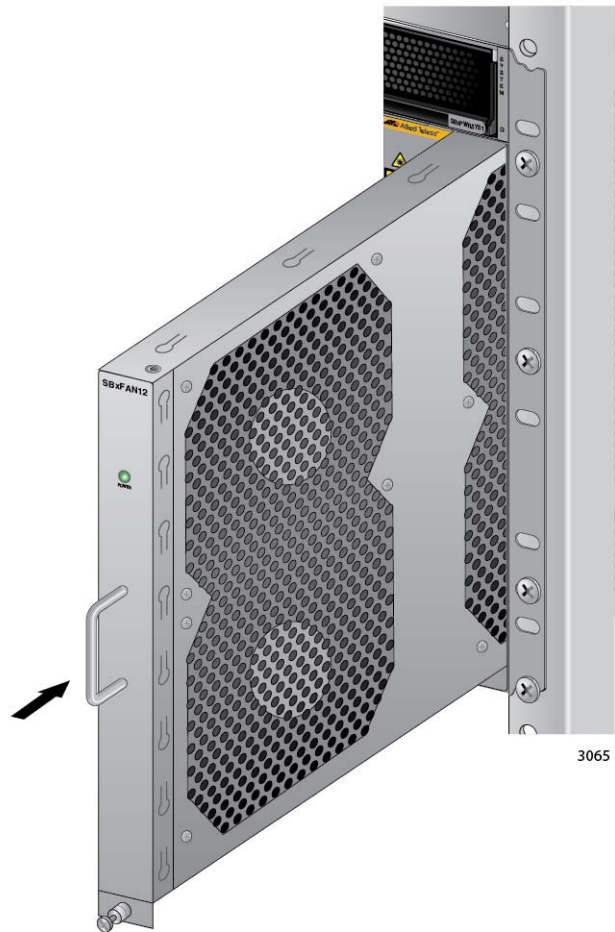

Figure 160. Installing a New AT-SBxFAN12 Fan Module
1. Orient the new module with the LED and module name on top and carefully slide the new module into the slot in the chassis. Refer to Figure 160 on page 248.